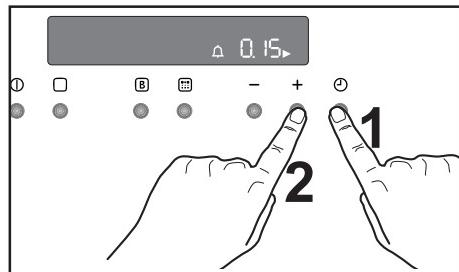

Fig. 7
1. Press button to select the Minute Minder function. The relevant symbol will flash and the control panel will display "0.00". (Fig. 7)